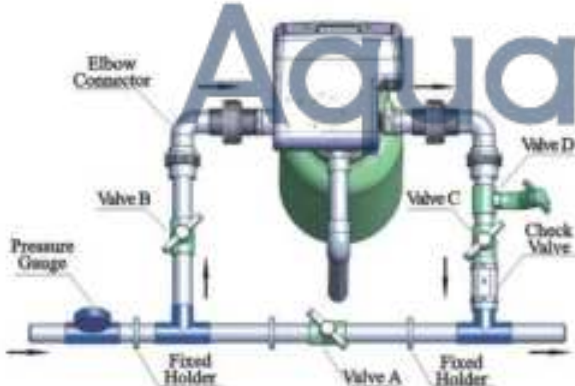

Figure1-2
② Pipeline connection
- As figure 1-2 shows, install a pressure gauge in water inlet.